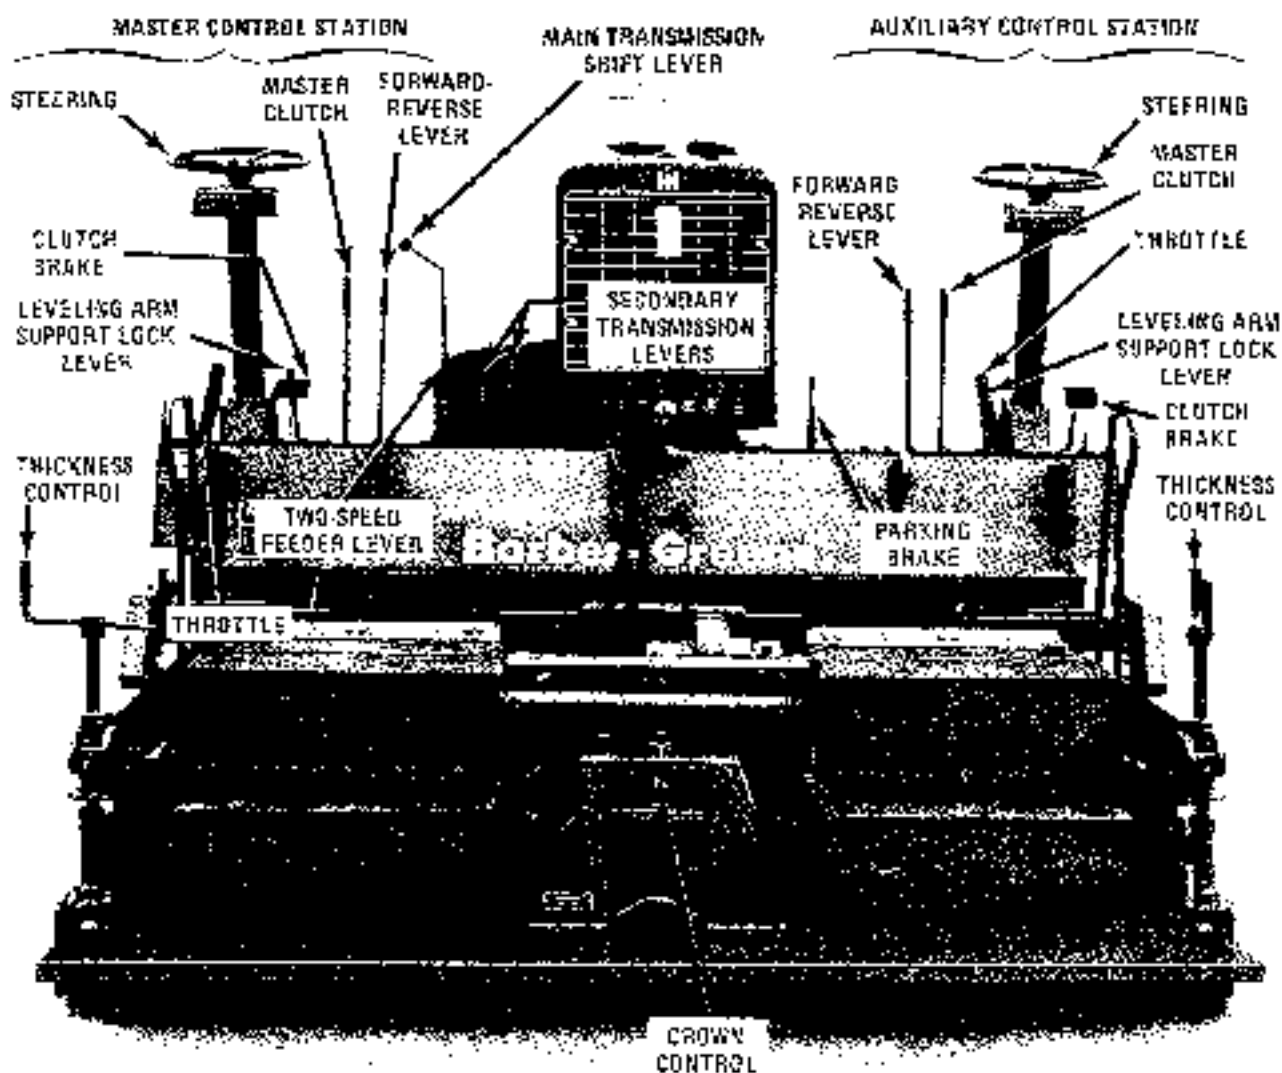

FIGURE C-1 — Operating Controls
The model SB-41 Finisher has two Operator's Control Stations. (Refer to Figure C-1.)
TO RAISE AND SUPPORT SCREED FOR TRAVEL (Refer to Figures C-1 thru C-3.)
1. With screed in raised position, move Leveling Arms Lock lever toward the center of machine, or "lock" position, refer to Figure C-1.
TO LOWER SCREED: (Refer to Figures C-1 thru C-2.)
TO OPERATE SCREED (Refer to Figures C-1 and C-2.)